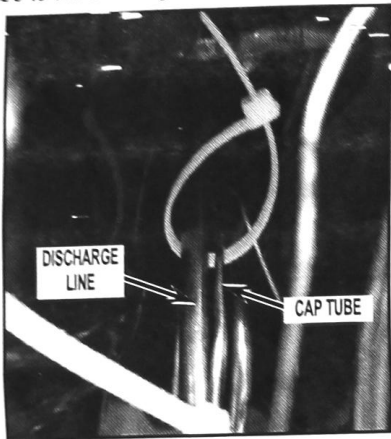

FIGURE 5
- Route the extra cap tube next to the discharge line and form to the line. Use two of the nylon wire ties supplied in the kit and attach the cap tube to the discharge line. Space the wire ties approximately 3 1/2" apart. Tighten the wire ties and the cap tube to the discharge line. See *Figure 5*.